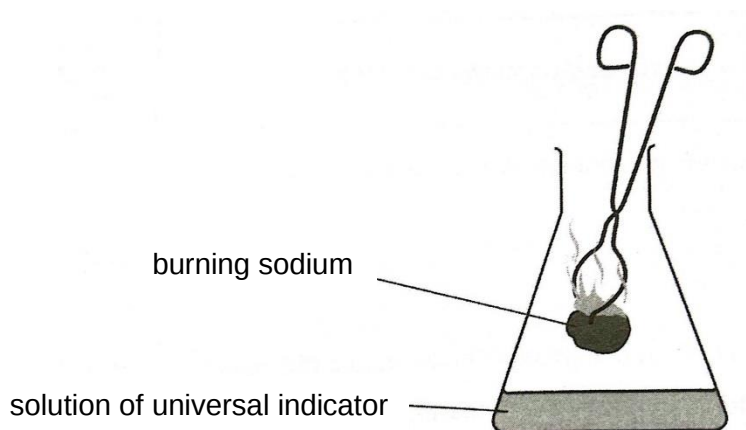

Fig. 7.1
- 7 Sodium burns in air to form sodium oxide as shown in **Fig 7.1**.